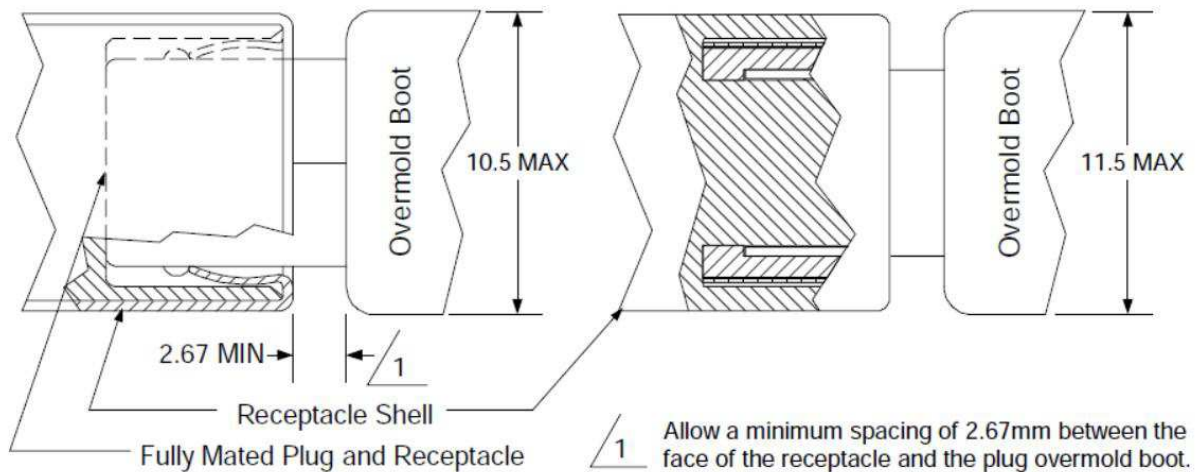

Figure 2
- mating and un-mating distance 2.67 mm minimum, See Figure 2.